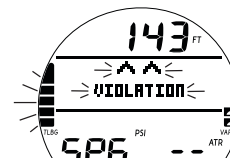

Fig. 55 - VGM MAIN (during Audible)
Upon activation of VGM, the Audible will sound during which the alarm LED and full TLBG* will flash. The graphic VIOLATION and (2) Up Arrows will also be displayed flashing, in place of Deco data (Fig. 55), until on the surface.